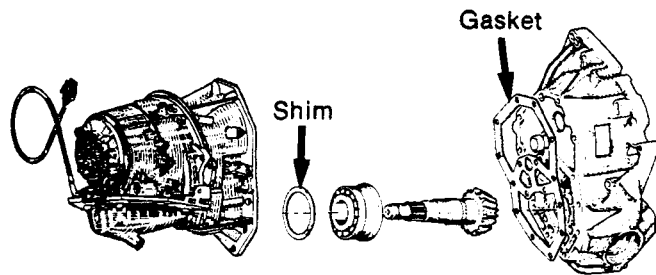

Figure 1
The gasket between the differential bell housing and the intermediate gear case must be replaced each time the transmission is disassembled. The metal shim(s) between the pinion bearing collar and the intermediate gear case must also be replaced at that time, since the shims are matched to the gasket thickness. (Refer to figure 1). Winnebago Part Sales Department has a parts package available which contains 1 gasket and a quantity of shims. Order part number **R77014-64-332** for all transmissions.
5. Install the new gasket between the intermediate gear case and the differential bell housing, (See figure 1) then reassemble the transmission.